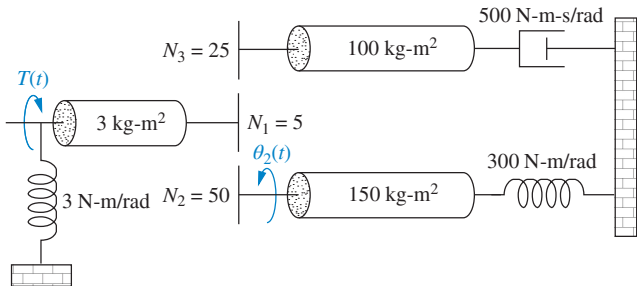

FIGURE P2.22
37. Find the transfer function,  $G(s) = \theta_2(s)/T(s)$ , for the rotational mechanical system shown in Figure P2.22. [Section: 2.7]